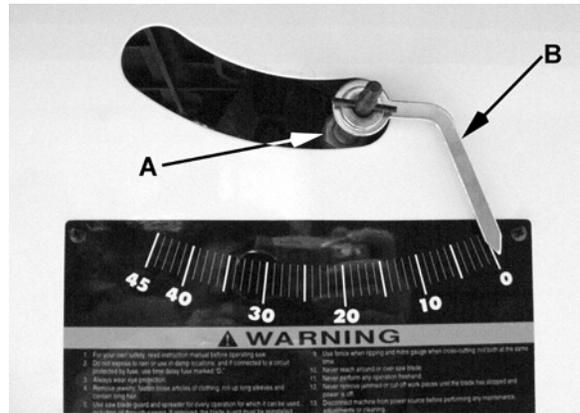

Figure 33
2. Remove the lock knob and raising handwheel but do not remove the pointer (Figure 33).
3. Loosen the lock nut (A, Fig. 33) using a 15/16" combination wrench.
4. Use the pointer (B, Fig. 33) as a lever and turn left or right until all perceptible play between the worm and arbor bracket is removed.
5. Tighten the lock nut (A., Fig. 33) and reset the pointer (B, Fig. 33).